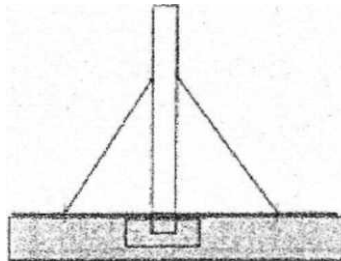

Fig. 5: Reset stone mortared into the base and braced.
- Step 8** To set the stone, first lay a 1/2 inch layer of mortar in the bottom of the recess, set the stone in place, fill the perimeter with mortar to the top of the cast base and slightly above shaping a "bead" to assist water run-off (Fig. 5). Make sure the stone is level. If necessary, additional mortar can be added to the sides of the slot and small pieces of soft waste stone can be used as shims to hold the stone in position while the mortar sets.